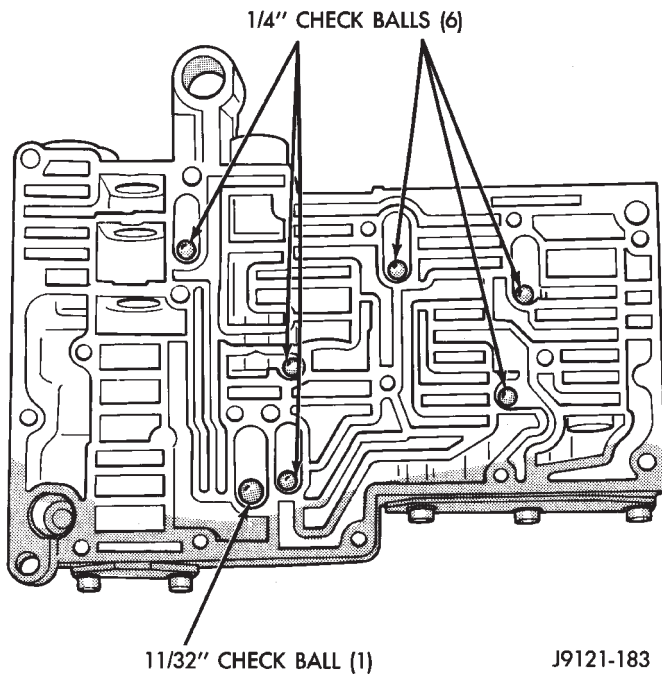

Fig. 58 Correct Position Of Valve Body Check Balls
(25) Place one 11/32 in. check ball and six 1/4 in. check balls in the proper cavities in the valve body (Fig. 58).